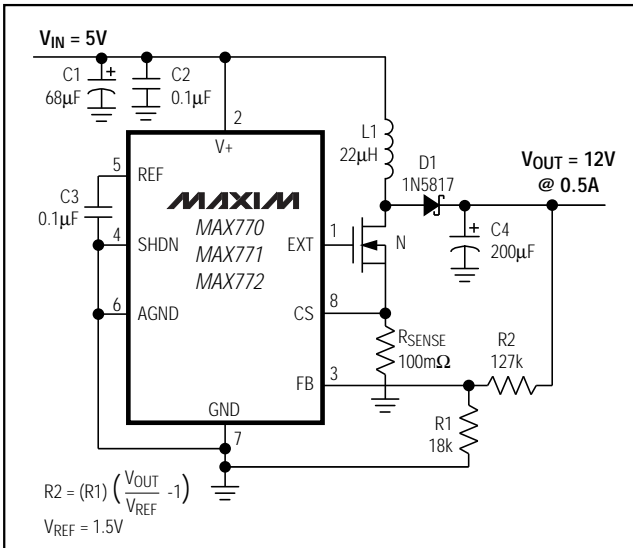

Figure 2c. 12V Output, Non-Bootstrapped
**Note: When using the MAX770/MAX771/MAX772 in non-bootstrapped mode, there is no preset output operation because  $V+$  is also the output voltage sense point for fixed-output operation. External resistors must be used to set the output voltage.** Use 1% external feedback resistors when operating in adjustable-output mode (Figures 2c, 2d, 3b, 3d, 3e) to achieve an overall output voltage accuracy of  $\pm 5\%$ . The MAX773 can be operated in non-bootstrapped mode without using external feedback resistors because  $V+$  does not act as the output voltage sense point with preset-output operation. To achieve highest efficiency, operate in bootstrapped mode whenever possible.